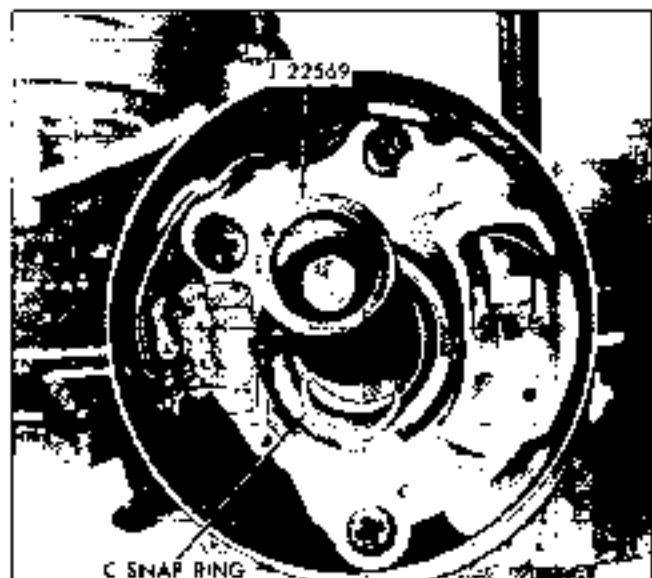

Fig. 9-3 C-Snap Ring Removal
5. Remove snap ring from upper steering shaft by sliding sideways out groove with tool J 22569. Do not pry against switch (Fig. 9-3).